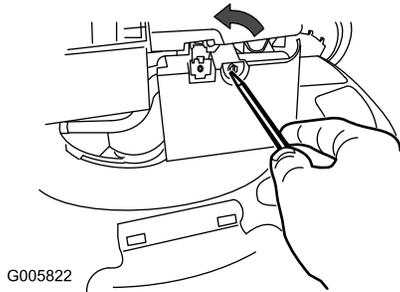

Figure 21
1. Use a screw driver to open the air-filter cover (Figure 21).